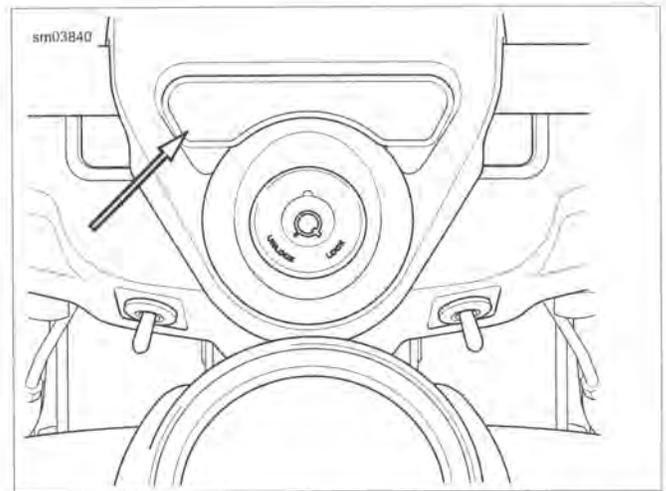
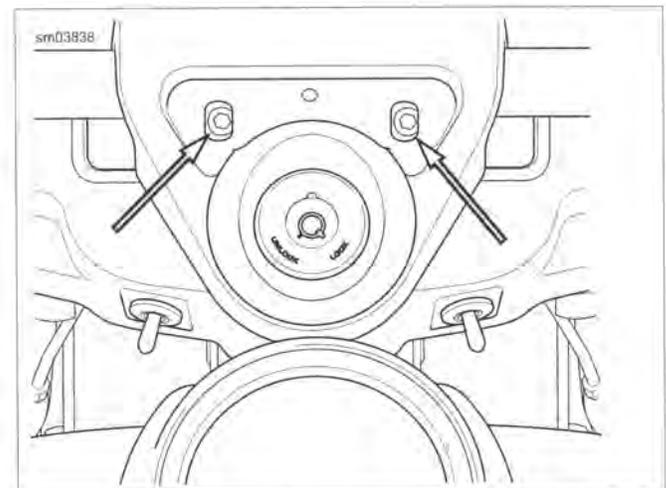

Figure 2-99. Remove Decorative Plate (FLHR/C)
Figure 2-100. Loosen Upper Handlebar Clamp Screws (FLHR/C)
- a. **Road King models:** See Figure 2-99 and Figure 2-100. Remove decorative plate from handlebar clamp shroud.
- a. **Road King models:** See Figure 2-99. Install decorative plate onto handlebar clamp shroud.